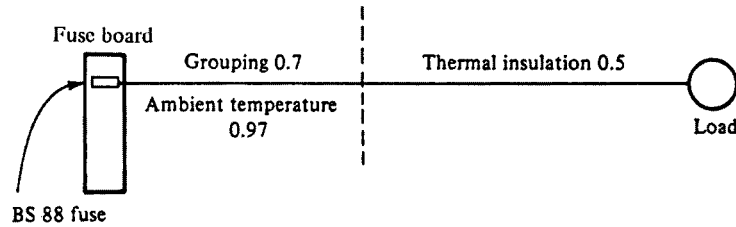

Fig. 18.3
- In Fig. 18.3 a combination of cases 1 and 2 is considered. The effect of grouping and ambient temperature is  $0.7 \times 0.97 = 0.69$ . The factor for thermal insulation is still worse than this combination, and therefore  $C_i$  is the only one to be used.